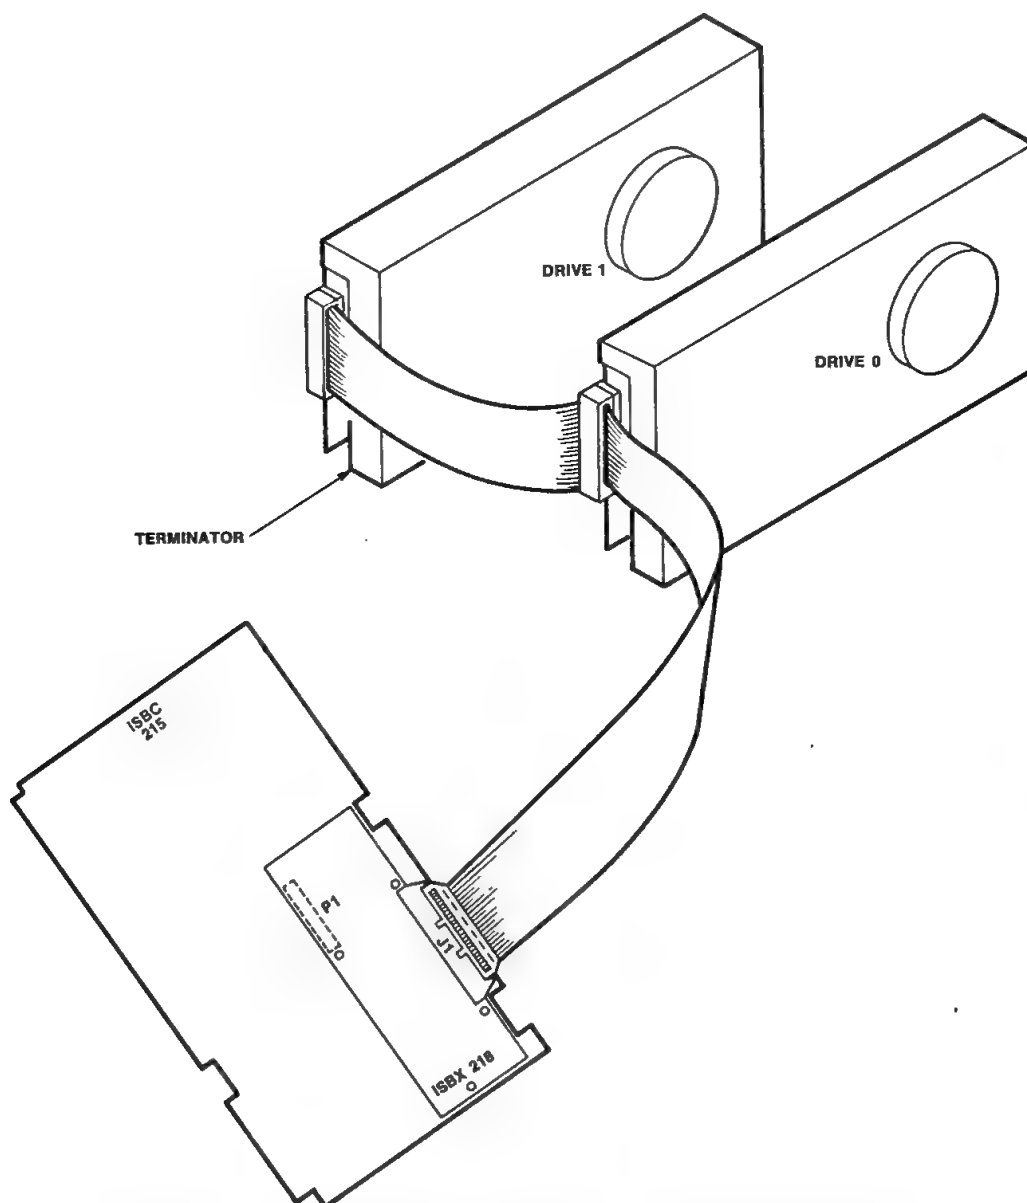

Figure A-5. Shugart SA850 Diskette Drive Interface Diagram
3. Install the interface mating connector on the iSBX 218 controller, ensuring that the interface connector wire 1 corresponds to the mating connector wire 1 (see Figure A-5).